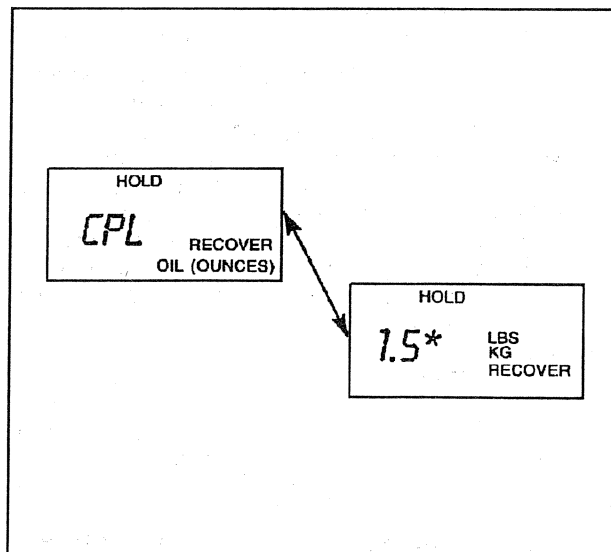

Figure 20—Refrigerant Recovery Display at End
12. At the end of the initial recovery process, the display shows "CPL" and then alternately flashes the weight of refrigerant recovered and "OIL/OZ." ("OIL/GMS") (figure 20).